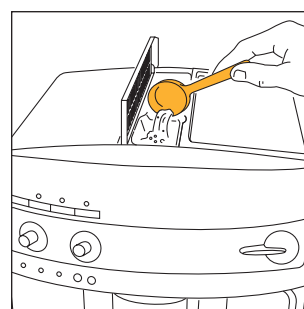

Fig. 19
2. Lift the lid in the centre, insert the pre-ground coffee measure in the funnel (see fig. 19) and proceed as described in paragraph 5. NB: You can make just one coffee at a time by pressing the .